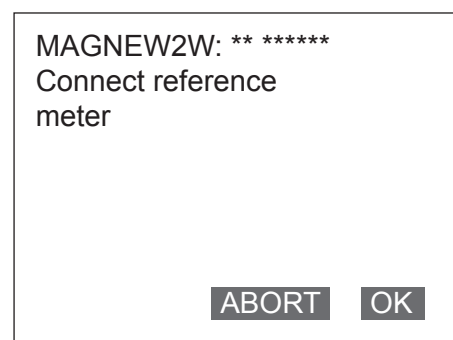

Figure 7-54
2. Figure 7-54 will then appears. Connect the device to measure the pulse output, and then press F4 (OK).